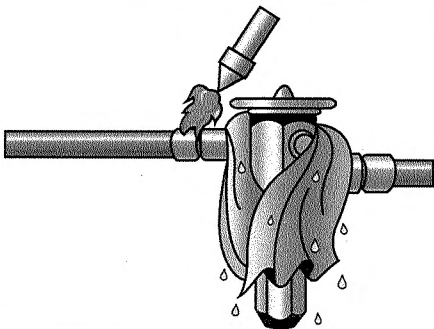

Figure 5
- Wrap the valve with wet rags as shown in Figure 5.